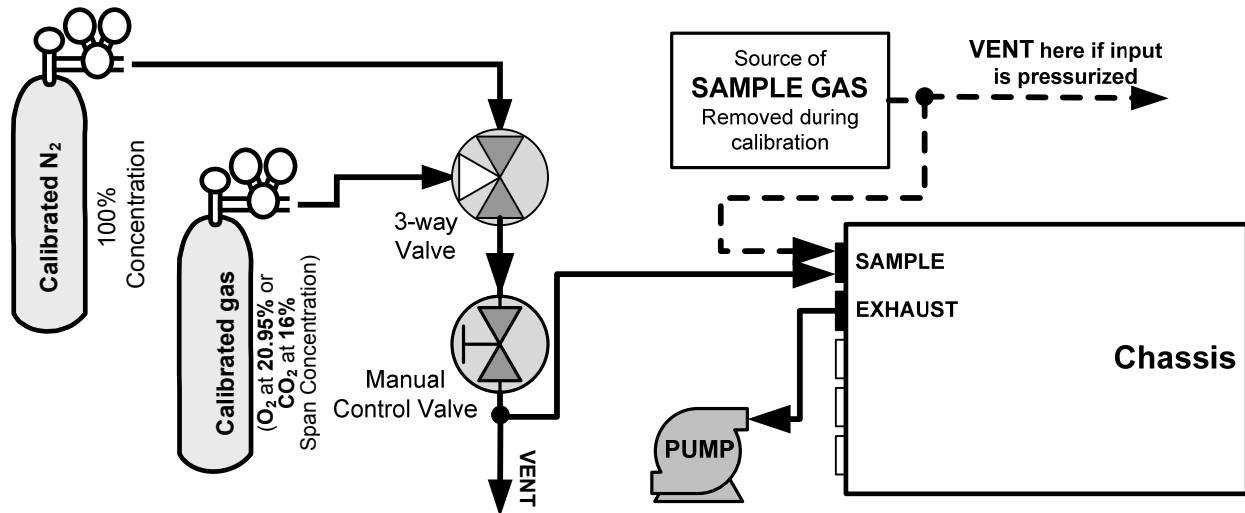

Figure 3-16: Pneumatic Connections, Using Bottled Span Gas
- In applications where the sample gas is received from a pressurized manifold, a vent must be placed on the sample gas before it enters the analyzer. Please refer to Figure 3-16.
The span gas, zero air supply and sample gas (if pressurized) line **MUST** be vented (Figure 3-16) for two reasons: in order to ensure that the gases input do not exceed the maximum inlet pressure of the analyzer, and to prevent back diffusion and pressure effects. These vents should be: